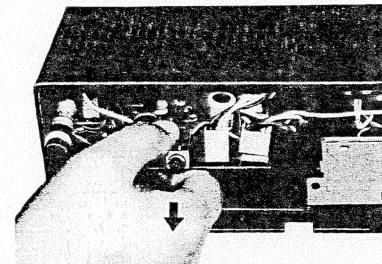

Fig. 4
2. Pull out the circuit board in the direction of arrow, as illustrated in fig. 4.
2. Pull o fig. 4.